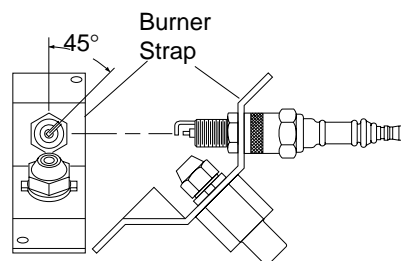

Figure 19 - Spark Plug Rotation, 35/50 Models
10. Replace burner strap onto spark plug. Rotate burner strap to position spark plug electrodes as shown in Figure 19.